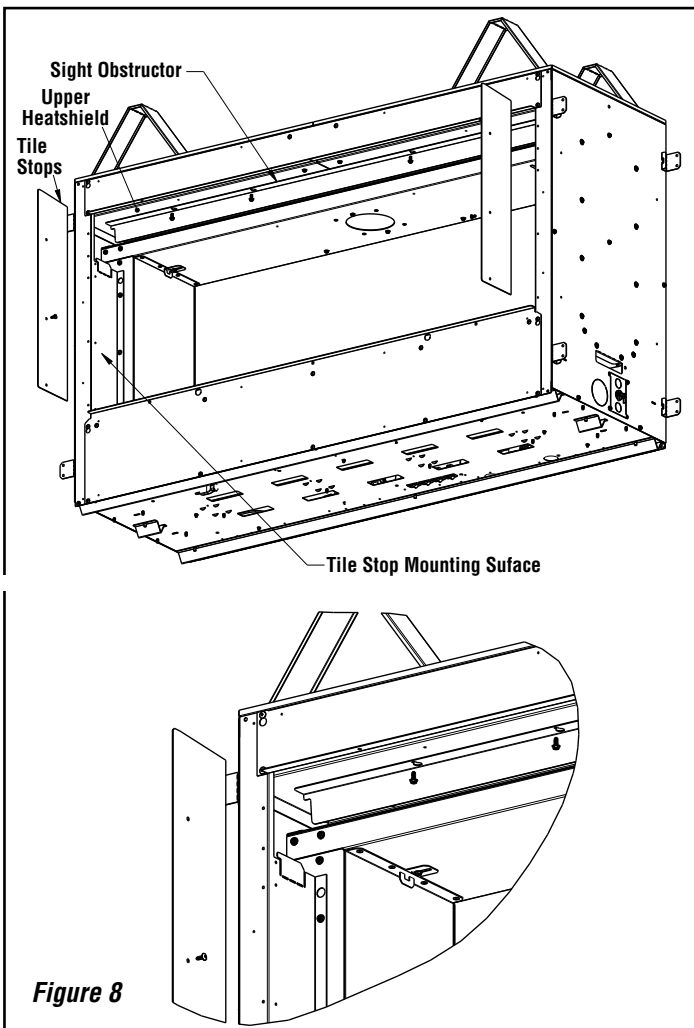

Figure 8
10. Install the Sight Obstructor to the upper heatshield just above the firebox opening using four (4) hex head screws. It is keyhole slotted so the mounting screws may be pre-installed loosely, the obstructor can be placed on them, and then the screws can be tightened (see **Figure 8**).
11. Using the supplied phillips head screws, attach the Tile Stops to the Tile Stop Mounting Surfaces using the center hole only (see **Figure 8**).